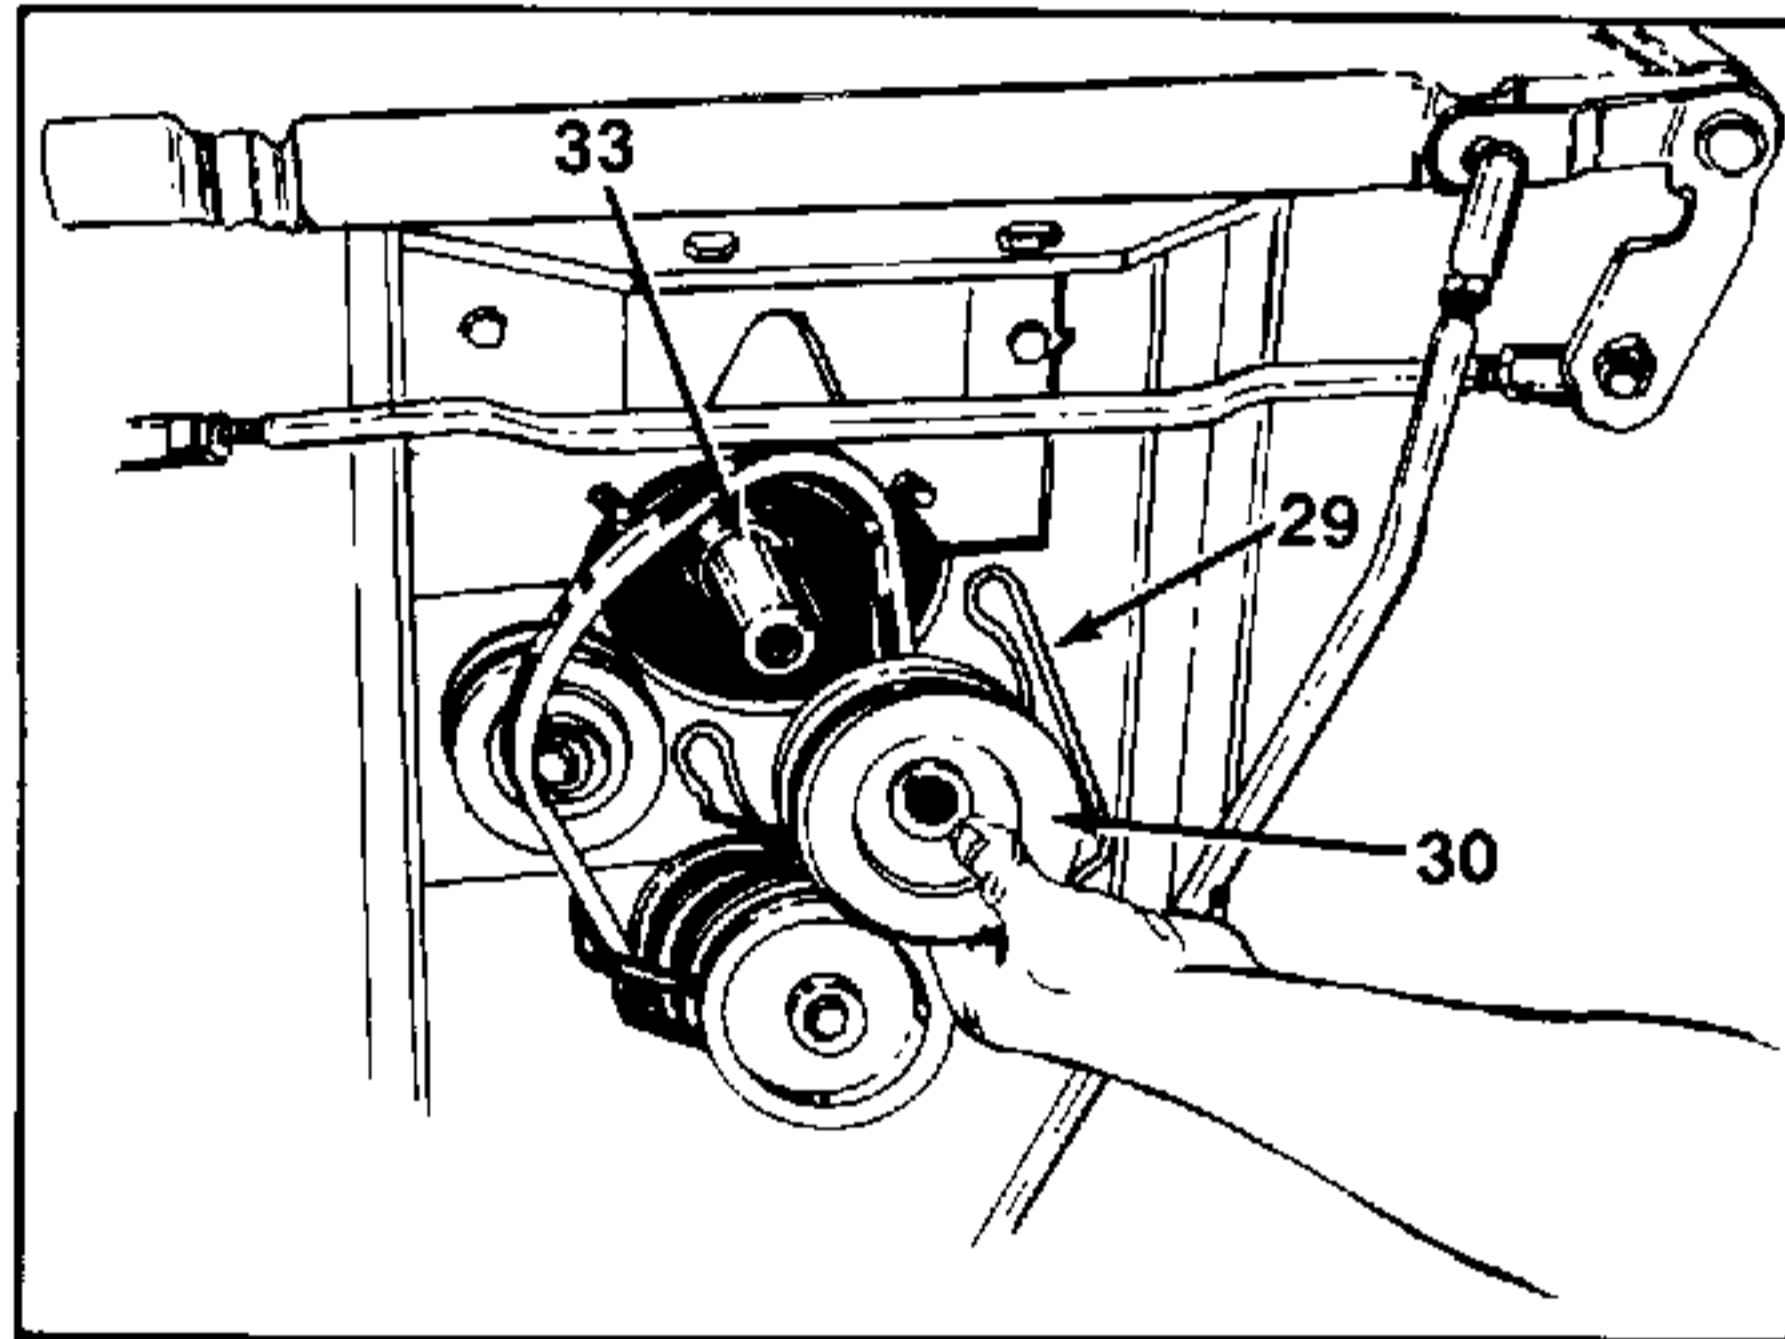

FIGURE 17.
15. Remove the engine pulley (Ref. 30) and engine pulley belt guard (Ref. 29). See figure 17.
16. Remove the spacer (Ref. 33). See figures 17 and 18.